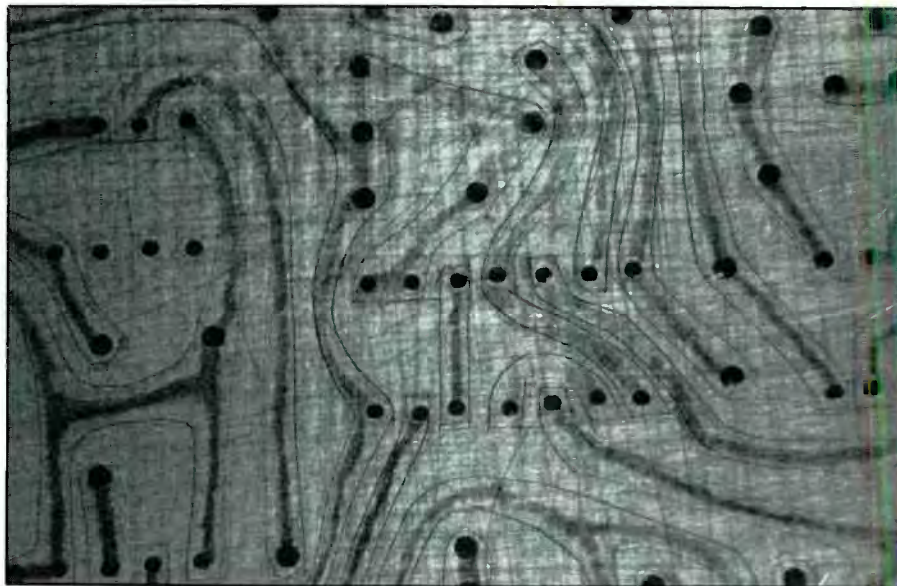

Fig. 3. Carefully following original artwork, conductor pattern is drawn on self-adhering plastic sheet with a soft lead pencil.
• *Step 4.* When you are finished drawing the copper-trace pattern (see Fig. 3), compare it point for point against the original artwork—for both sides of the blank if you are making a double-sided board. If you discover any errors at this point, correct them immediately. Then, when you are satisfied that everything is okay, use a very sharply pointed hobby knife to score the plastic around every drawn trace down to the copper surface(s). Think of each trace as an elongated circle. Before you do this, however, it is a good idea to practice on a scrap plastic-clad board. Spacing between cuts, working around IC pad locations and the amount of cutting pressure are the only difficult—but easily mastered—parts of this simple pc-board-making procedure.